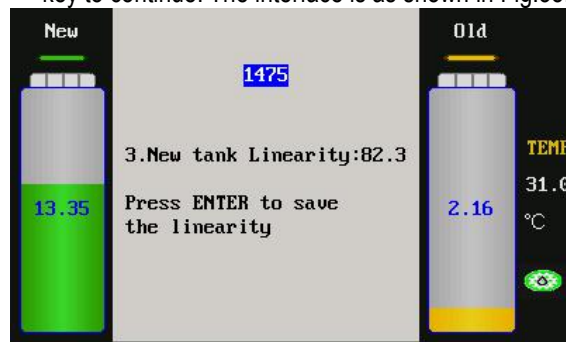

Fig.35
5) Put the weight on the plate. When the value displayed on the interface is stable, please press OK key to continue. The interface is as shown in Fig.35.